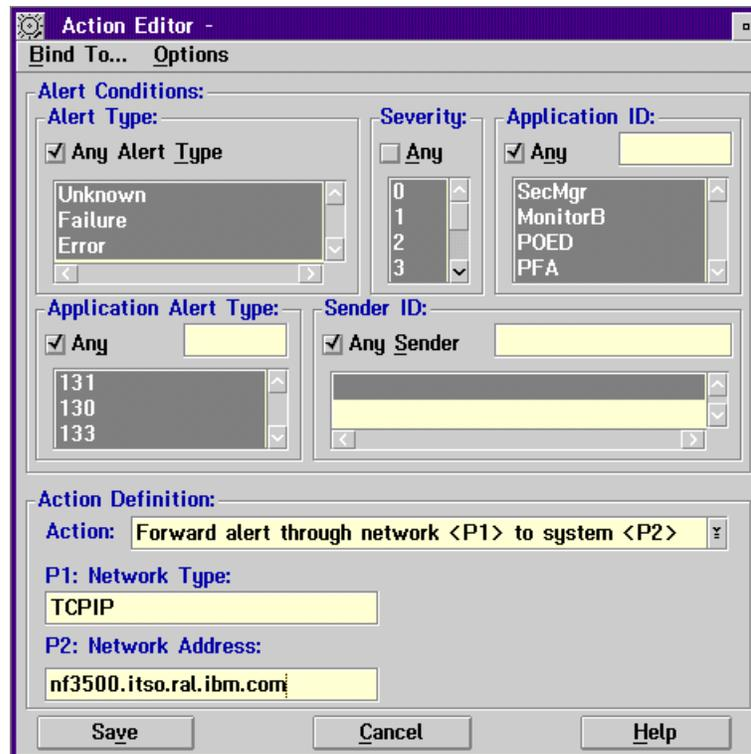

Figure 103. Configuring an Action to Send All Alerts to the Administrator
4. Setup the actions window as in Figure 103 on page 143.